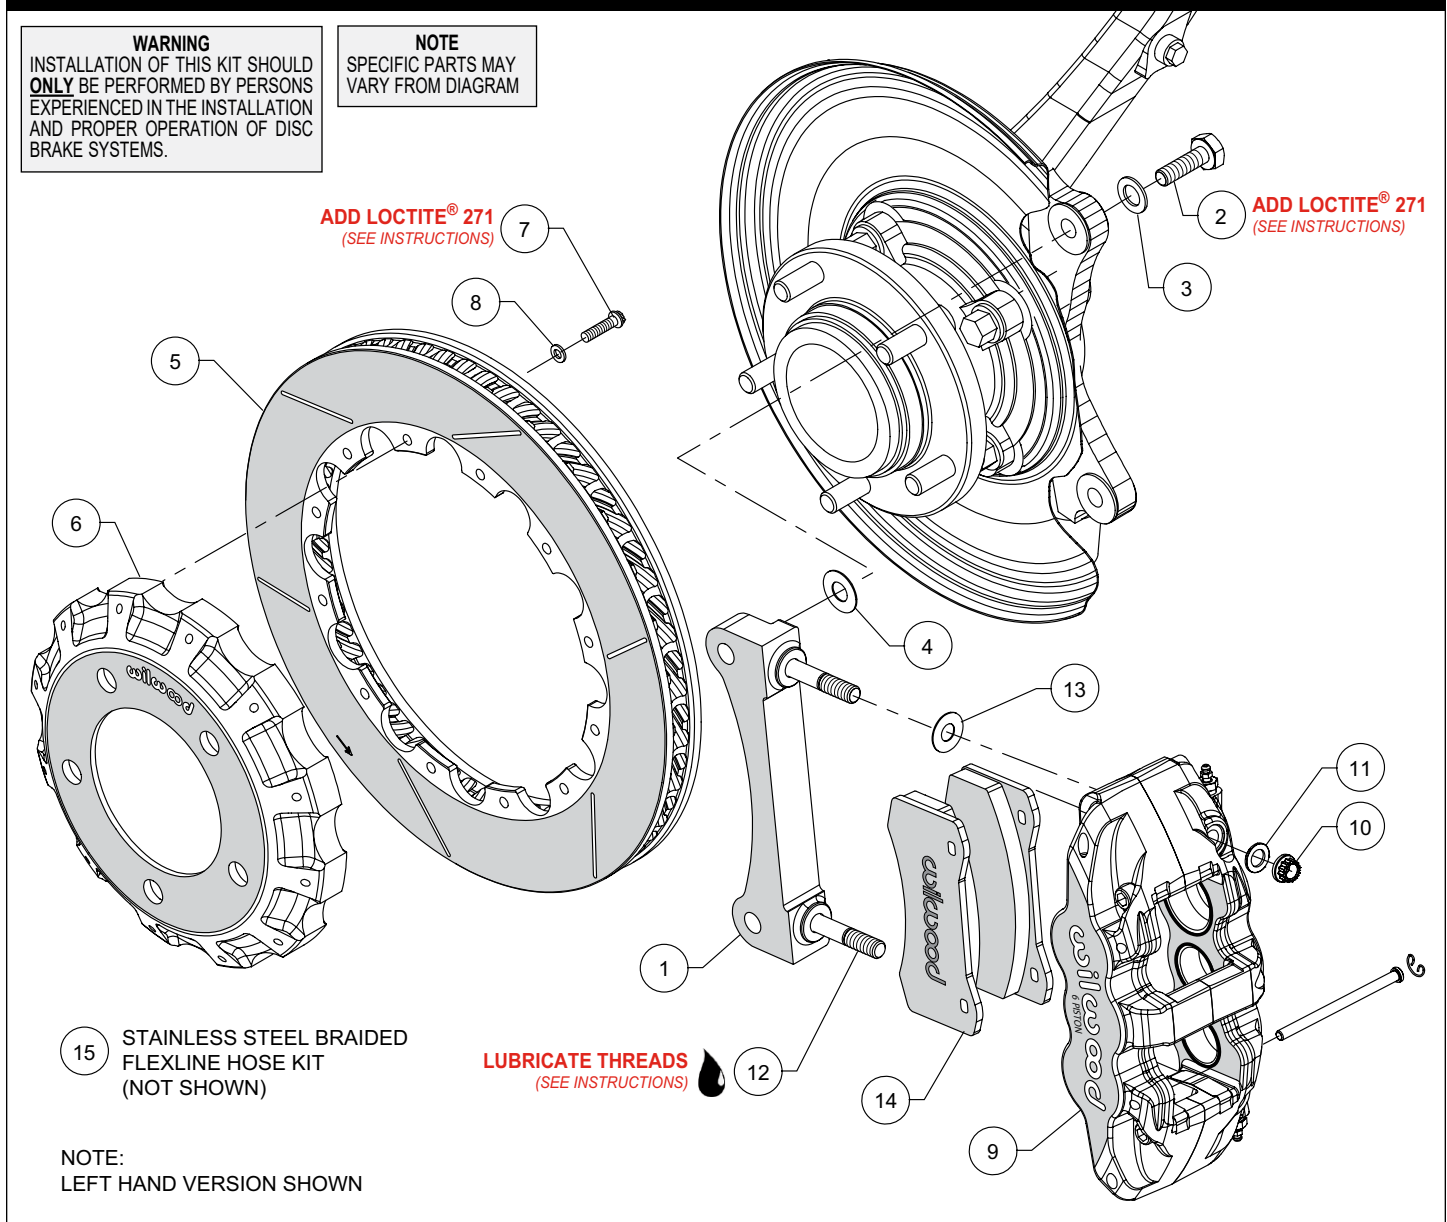
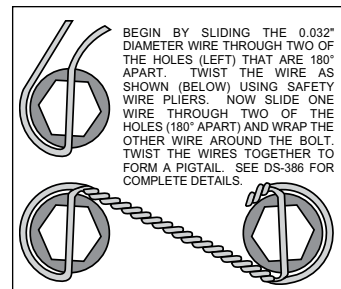

Figure 1. Typical Installation Configuration
Figure 3. Safety Wire Diagram
**NOTE:** Numbers in parenthesis refer to the parts list and Figure 1 on the preceding pages.
- The caliper mount bracket (1) should initially be installed with clean, dry threads on the mounting bolts. Orient the bracket, as shown in Figure 1 and Photo 2, and install using bolts (2) and washers (3). Initially place one .029" thick shim (4) on each bolt between the bracket and upright, Figure 1. Temporarily tighten the mounting bolts. **NOTE:** The bracket must fit squarely against the mount bosses on the upright. Inspect for interference from casting irregularities, machining ridges, burrs, etc. Later, after the caliper alignment has been checked, the mount bolts will be secured using red *Loctite*® 271.
- Orient the rotor (5) and the hat (6) as shown in Figure 1 and Photo 3. Attach rotor to hat using bolts (7) and washers (8). Apply red *Loctite*® 271 to the bolt threads and torque to 155 **in-lb** using a criss-cross pattern. For an added measure of security, the bolts may be safety wired using standard 0.032 inch diameter stainless steel safety wire as shown in Figure 3. Refer to Wilwood's data sheet DS-386 (available at [www.wilwood.com/Pdf/DataSheets/ds386.pdf](http://www.wilwood.com/Pdf/DataSheets/ds386.pdf)) for complete safety wire installation instructions.
- NOTE:** This kit contains distinct right and left hand calipers that must be mounted in a specific direction, as described below. Lubricate the caliper mounting studs (12) with lightweight oil. Initially place one .030" thick shim (13) on each stud between the caliper and the bracket, as shown in Figure 1 and Photo 5. Mount the caliper (9) onto the bracket (1) using lock nuts (10) and washers (11), Figure 1. Temporarily tighten the lock nuts. Ensure that the caliper is mounted so the largest pistons are at the rotor exit end of the caliper, in relation to the direction of the rotor. View the rotor through the top opening of the caliper. The rotor should be centered in the caliper, Photo 6. If not, adjust by adding or subtracting shims (4) between the bracket and the upright. Always use the same amount of shims on each of the two mounting bolts. Once the caliper alignment is correct, remove the bracket mounting bolts (2) one at a time, apply red *Loctite*® 271 to the threads, and torque to 77 ft-lbs.
- Remove the caliper (9), then remove the two pad retaining pins from the caliper by carefully popping out the pin retaining clips and sliding out the pins. Insert the brake pads (14) into the caliper from the bottom, Figure 1 and Photo 7. With the friction material facing the rotor, secure the brake pads in place with the pad retaining pins and clips, Photo 8. Reinstall the caliper onto the caliper mounting bracket and temporarily tighten the lock nuts. Check that the top of the brake pad is flush with the outside diameter of the rotor, Photo 9. If not, adjust by adding or subtracting shims (13) between the caliper and the bracket. After the caliper pad height is set, torque the caliper lock nuts (10) to 47 ft-lb.